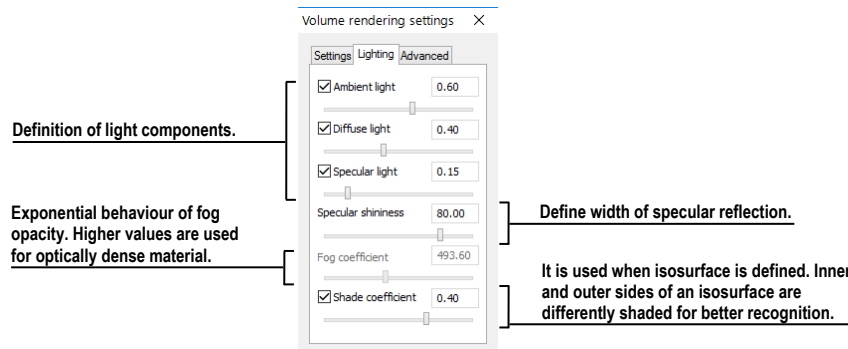

Figure 327 – Volume rendering settings, the second tab
- Lighting settings used in volume rendering on the second tab (see Figure 327)